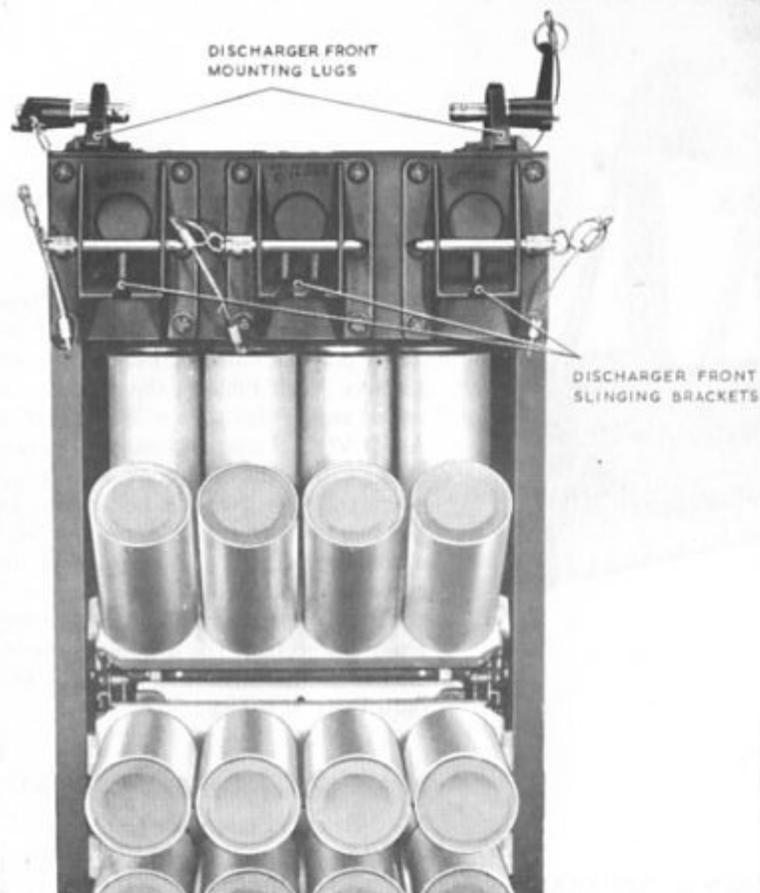
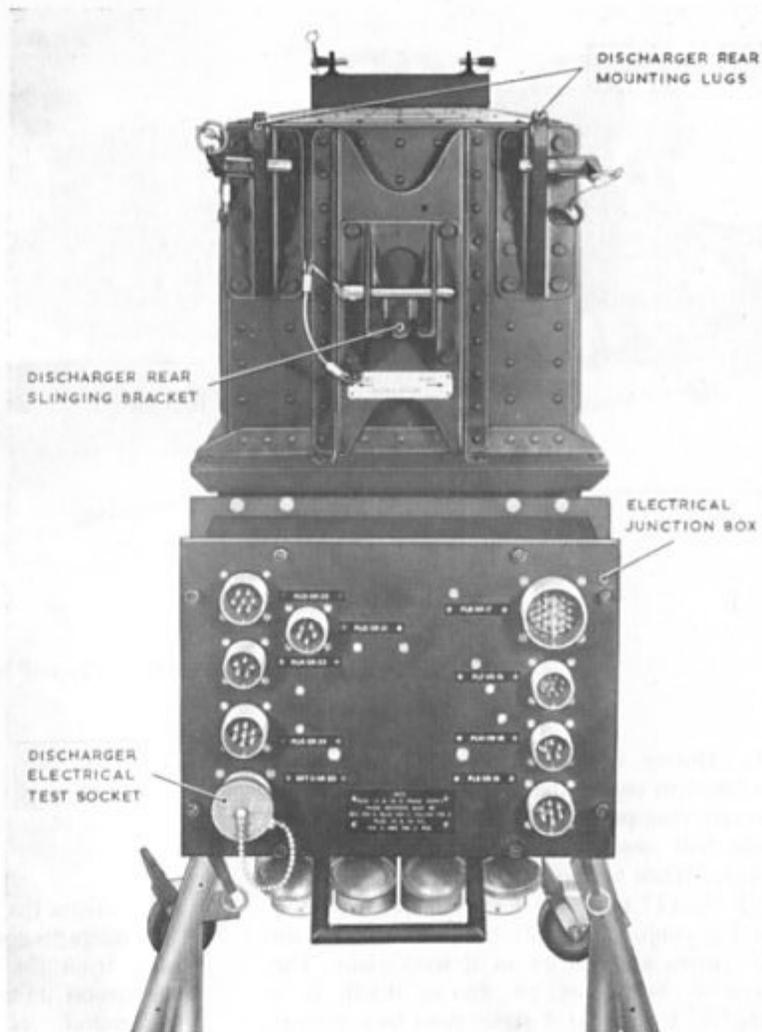

Fig 7 Discharger, front view
Fig 8 Discharger, rear view
42. Keeping the discharger level, hoist it to the aircraft. Attach the discharger to the aircraft at the forward attachment points (Fig 7), using two $\frac{1}{2}$ in. dia quick-release pins, then fit the rear attachment (Fig 8), using the two $\frac{3}{8}$ in. dia quick-release pins. The hoists are disconnected and removed from the aircraft and the discharger stay is fitted to the discharger bracket, and secured with its quick-release pin.
43. Remove the aircraft electrical cables from their stowage positions and remove the protective caps from the discharger and the automatic window dispenser. Fit the protective caps to the aircraft stowage positions and connect the plugs on the aircraft supply cables to the sockets on the rear face of the junction box at the rear of the discharger and to the automatic window dispenser (Fig 8).